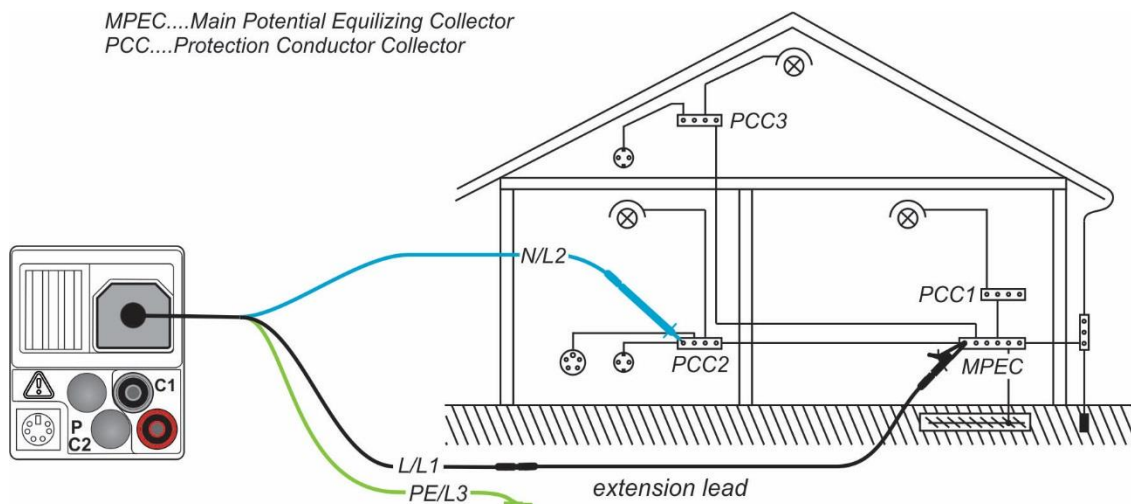

Figure 5.12: Connection of 3-wire test lead plus optional extension lead
- ❑ **Connect** the test leads to the appropriate PE wiring (see *Figure 5.12*).